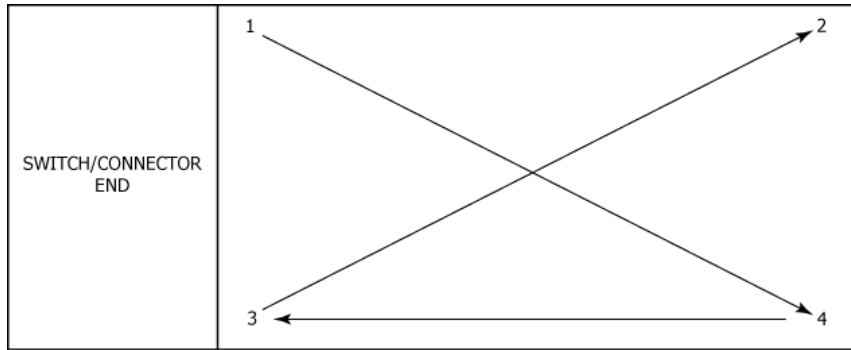

Figure 25 Battery Pack Screw Tightening Pattern
- 11) Tighten and torque the screws as shown in Figure 25 Battery Pack Screw Tightening Pattern. Torque to 6-8 lb-in (68-90 N•cm).